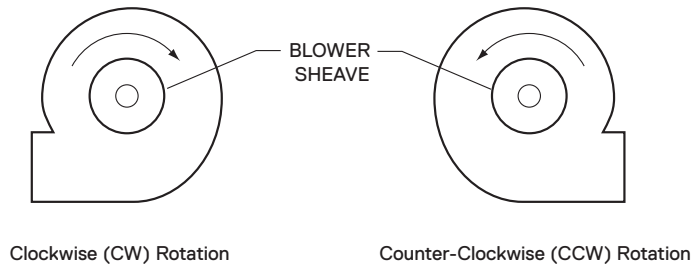

Figure 1
- 14 Apply power to the blower motor momentarily (bump start) to check for proper blower wheel rotation. If the blower is rotating in the wrong direction, reconnect the motor leads per the motor manufacturer's wiring schematic. **Blower rotation is determined by viewing the blower from the motor side of the blower, NOT from the inlet side.** After reconnecting the leads, repeat this step. See **Figure 1**.